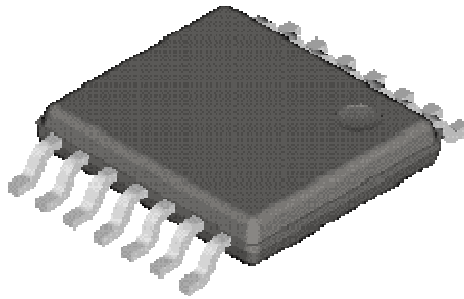

Figure 2: Small outline gull-wing package (SOP)
- Small Outline Family contains SOJ, SOP, and TSOP. SOP, or small outline gull-wing package, has leads on two sides of the package. This package is usually for small die sizes and is commonly used for SRAM chips. The SOP Package is shown below in Figure 2.